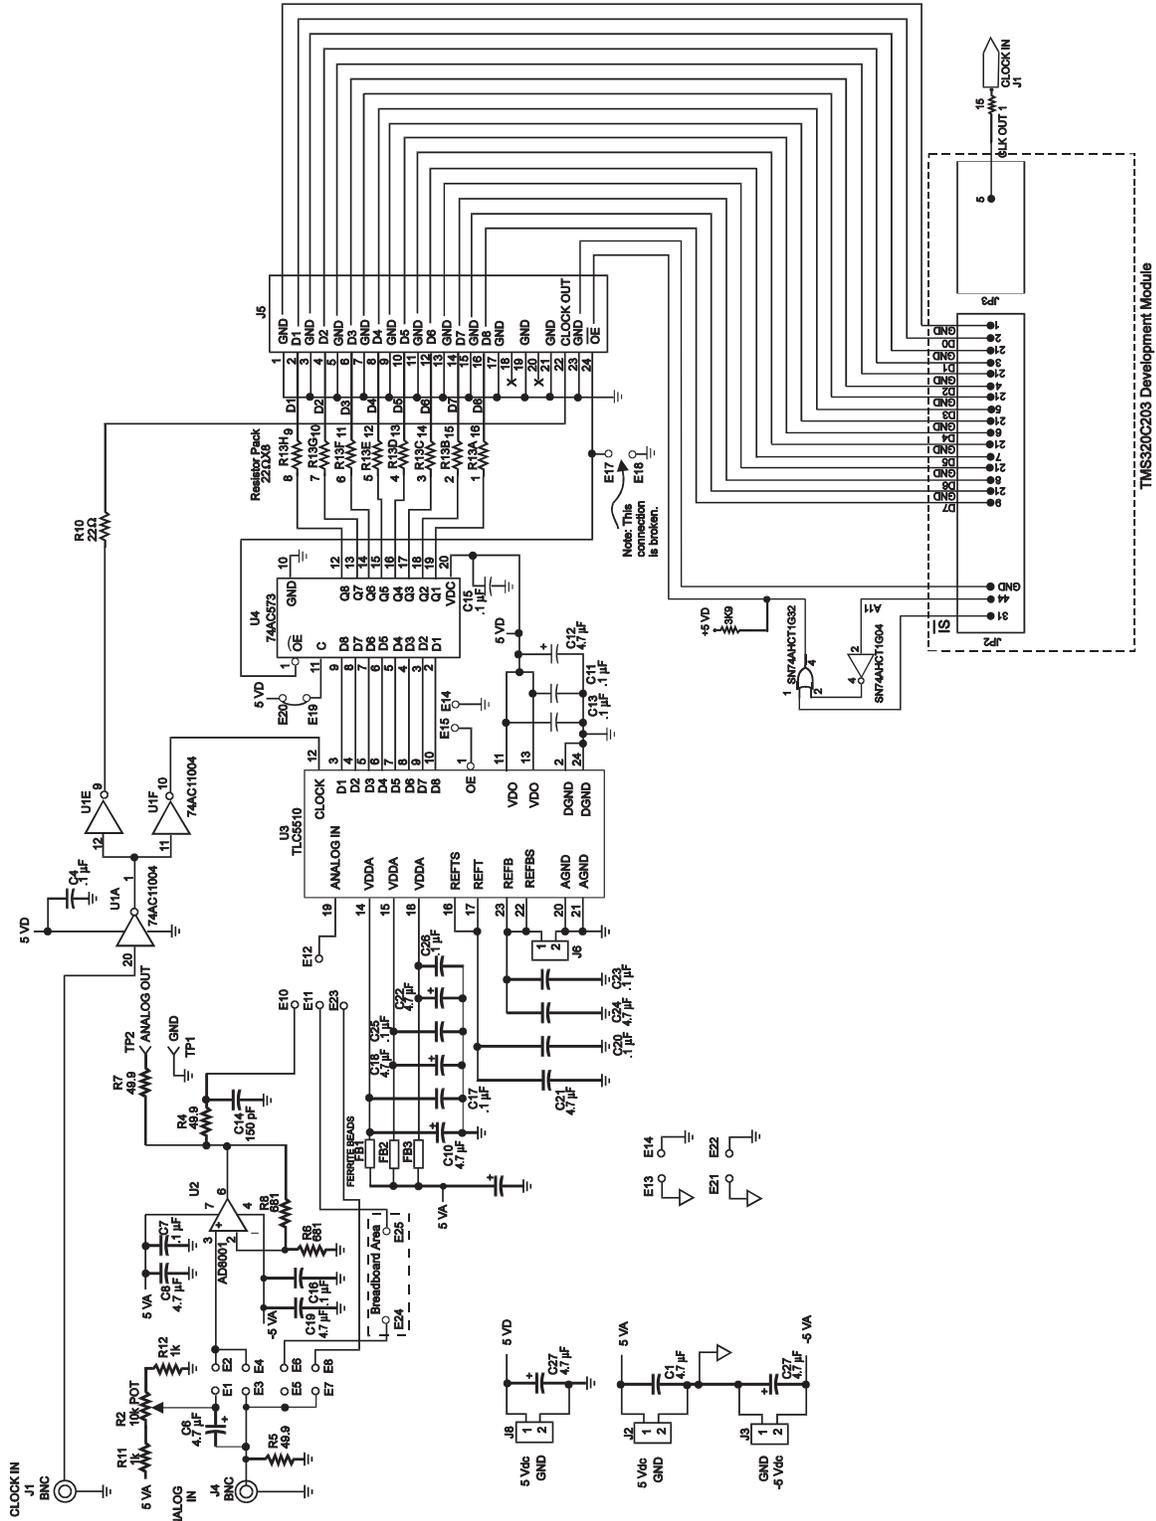

Figure 2. TLC5510 to TMS320C203 DVM Interface Schematic
Figure 2 illustrates the various jumper locations on the EVM board. The EVM must be provided with three (3) separate voltages: analog (5 V: J2, -5 V: J3), and digital (5 V: J8). The -5 V supplied to the EVM is used as the negative supply voltage to the operational amplifier. Depending on the operational amplifier used to drive the ADC, this negative voltage may not be required in the actual application. The digital ground area for the digital-supply voltage is isolated from analog ground to prevent noise spikes, generated by the digital logic, from affecting the analog circuits on the board. The two grounding areas can simply be connected together with a jumper from E21 to E22, or from E13 to E14. This helps to create and evaluate alternate grounding options.
A schematic of the TLC5510 EVM interface to the TMS320C203 DVM is shown in Figure 2. The TMS320C203 DVM is a standalone board carrying a TMS320C203PZ DSP, an analog-interface circuit (AIC), flash memory, SRAM, and serial interface for communication with a PC via the serial COM port. The fixed point TMS320C203PZ has an instruction cycle time of 50 ns and is optimized for efficient implementation of digital-signal-processing algorithms.
Referring to Figure 2, the data bus (D1 – D8) is connected via data-bus driver SN74AC573 (J5 pins 2, 4, 6, 8, 10, 12, 14, and 16) through a short ribbon cable to the TMS320C203 DSP data-bus lines (D0 – D7). To prevent bus contention, the SN74AC573 device must be in an active state only when data is being read from the ADC. Each time the DSP wishes to read data from the ADC, address line A11 is set to a logic-high level, and \overline{IS} is set to logic low. A11 and \overline{IS} form the inputs to the control logic that drives the \overline{OE} pin to logic low and thus switches data bus driver SN74AC573 from 3-state to an active state.